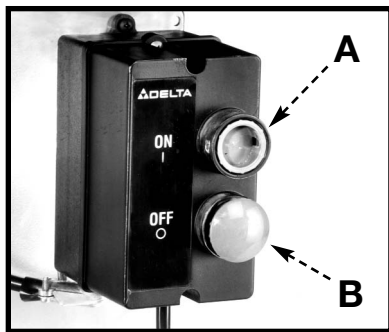

Fig. 19
To **start** the machine, push "ON" button (A) Fig. 19. To **stop** the machine, push "OFF" button (B).